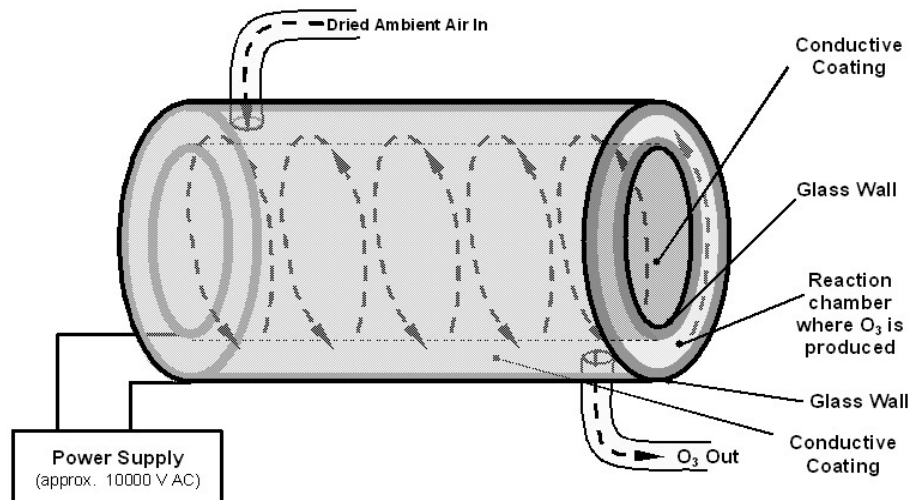

Figure 13-8: Ozone Generator Principle
The T200 uses a dual-dielectric, Corona Discharge (CD) tube for creating its O3, which is capable of producing high concentrations of ozone efficiently and with low excess heat (see Figure 13-8). The primary component of the generator is a glass tube with hollow walls of which the outermost and innermost surfaces are coated with electrically conductive material.